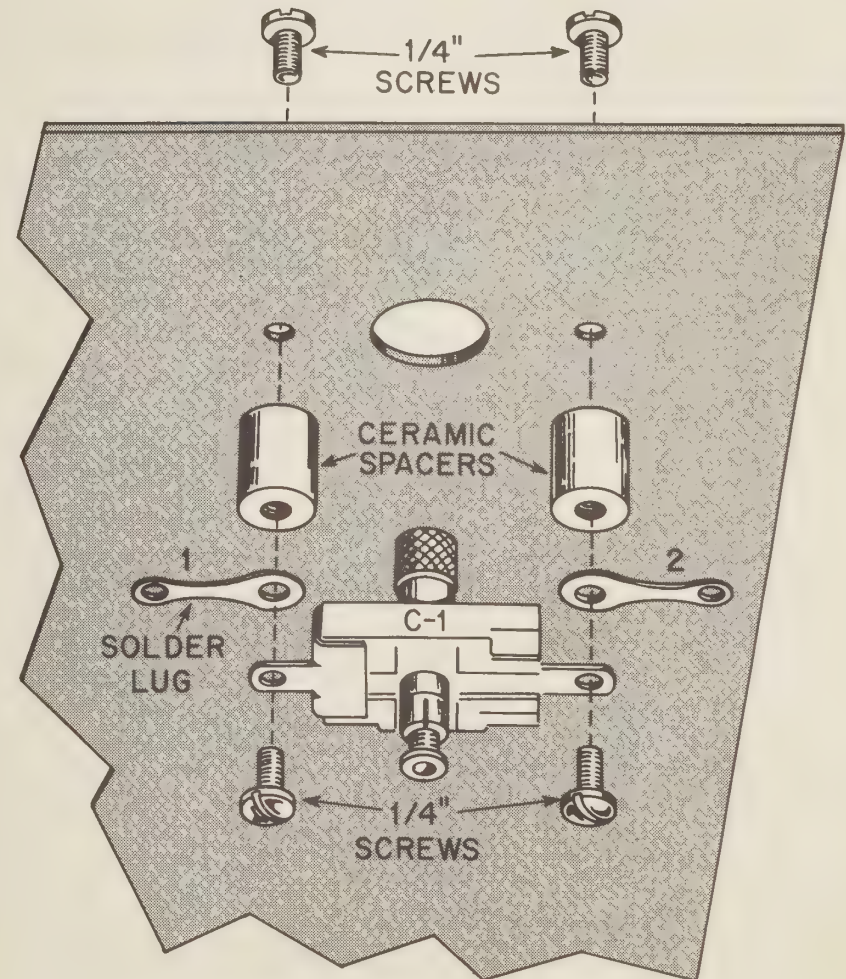

FIGURE 8. C-1 MOUNTING DETAIL
- ☒ Mount C-1, the ANTENNA TUNING capacitor, as shown in Figure 8. Use the  $\frac{1}{4}$ " screws, the two solder lugs and the ceramic spacers to fasten C-1. **Be sure to use only the  $\frac{1}{4}$ " screws otherwise the capacitor will short.**